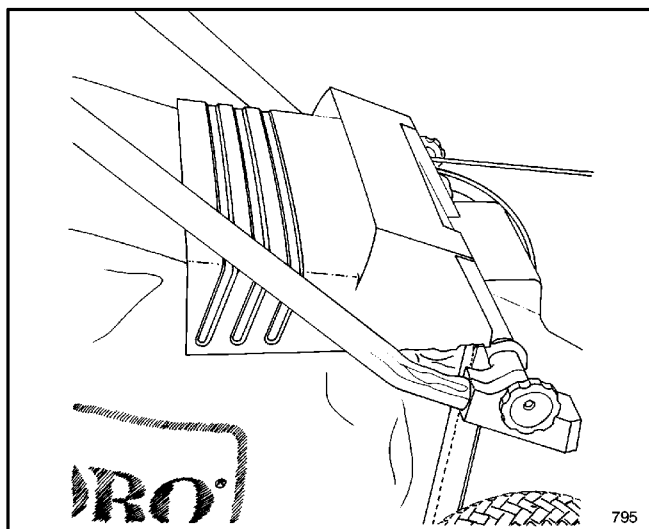

Figure 7
2. Allow discharge door to rest on top of bag (Fig. 7).